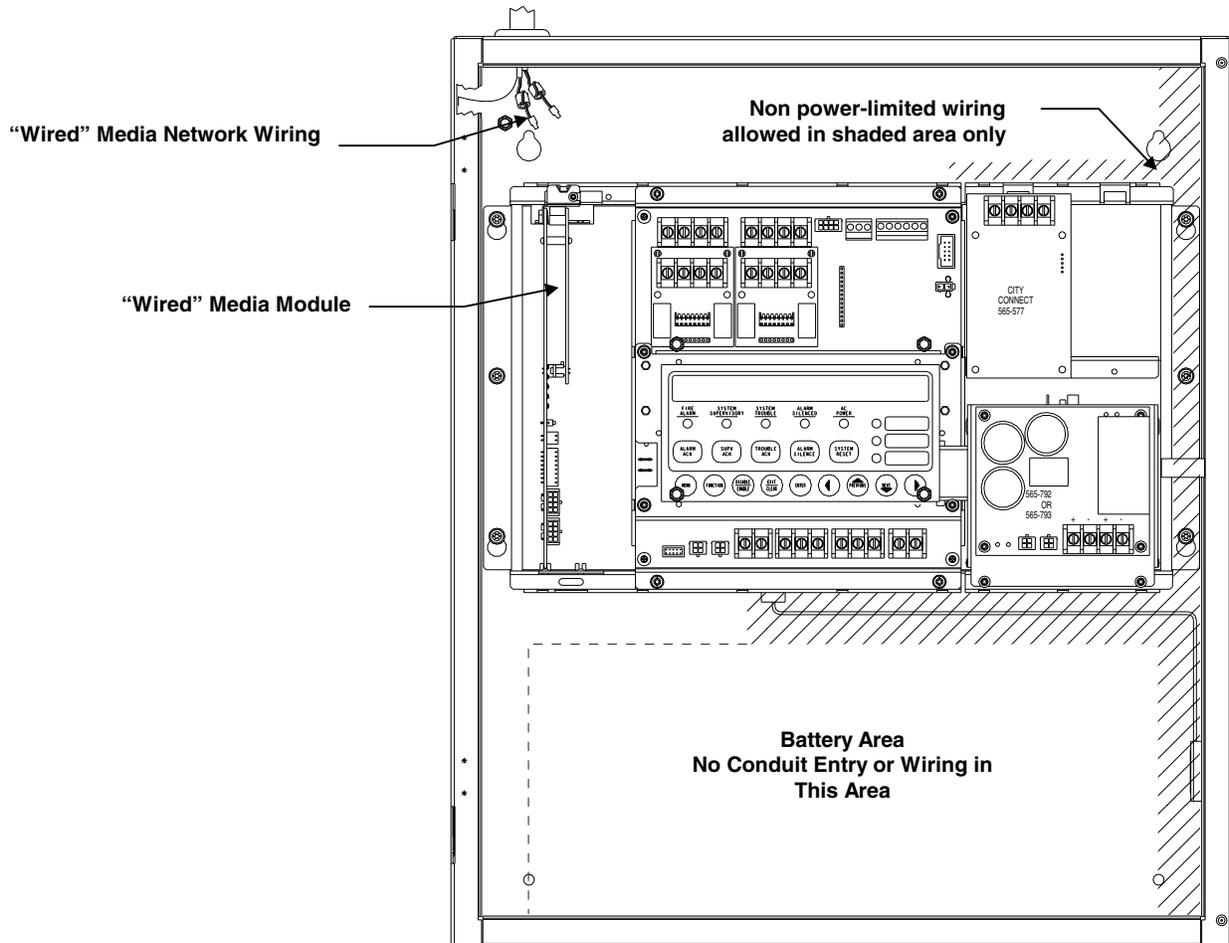
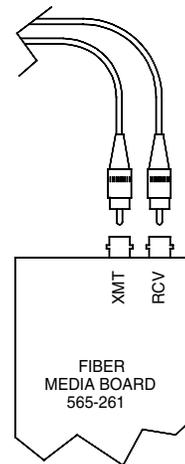

Figure 5. "Wired" Media Network Wiring
Figure 7. Installing Fiber Optic Cables
Use the information in Figures 5 and 6 to install the wiring to the 4010-9818 media module.
Figure 5 shows the network wiring entering the 4010 Back Box in the upper left corner.
Use Figure 7 as a reference when installing fiber optic cable to the 4010-9819 Fiber Optic Media Module. The fiber optic module installs similar to the “wired” media module (see Figure 5). Refer to the *Installing the Media Fiber Optic Card* publication (574-067) for additional information.
**IMPORTANT:** Pay careful attention to the routing for Power-Limited and Non Power-Limited wiring. You must maintain a 1/4-inch separation between these two types of wiring. Neatly dress all harnesses and wiring (see Figure 5).